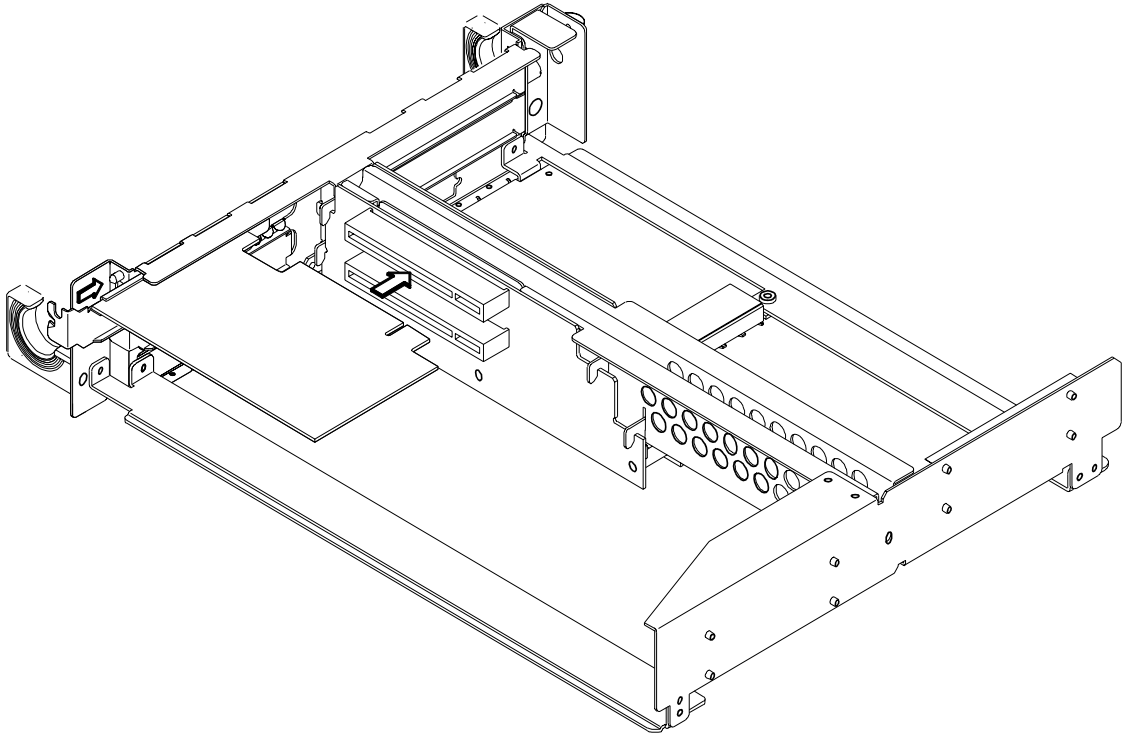

Figure 5-4 **Installing a PCI Option Card**
- 8 Install the PCI card in the slot, as shown in Figure 5-4. Make sure its connector is completely seated in the PCI backplane.